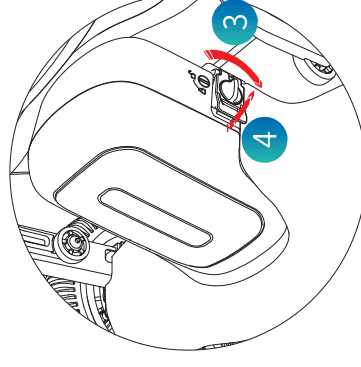

Figure 4.6.1.2
(2)In Step 2, manually rotate the right knob of the battery case and rotate the right knob to the unlocking position. Then open the battery right buckle. (As shown on Figure 4.6.1.2)